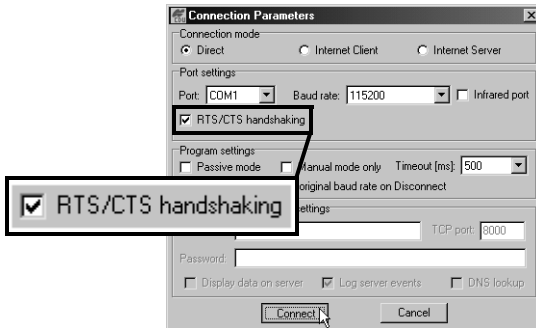

Figure 4-7. Connection Parameters – RTS/CTS Handshaking
2. On the **Connection Parameters** dialog box, enable *RTS/CTS handshaking* (Figure 4-7).